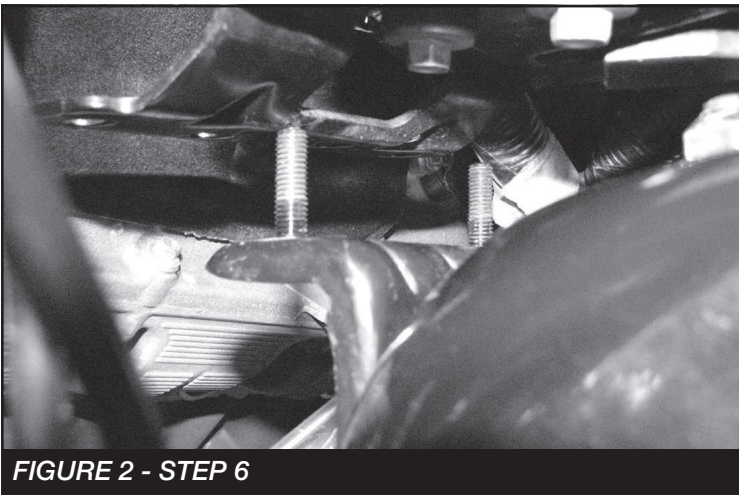

FIGURE 2 - STEP 6
6. **(DRIVER SIDE ONLY)** Remove the driver side inner fender liner. Locate the ABS module mounted to the backside of the factory upper spring perch. Remove the two nuts attaching the vertical and horizontal brackets together. Separate the two. **SEE FIGURE 2**